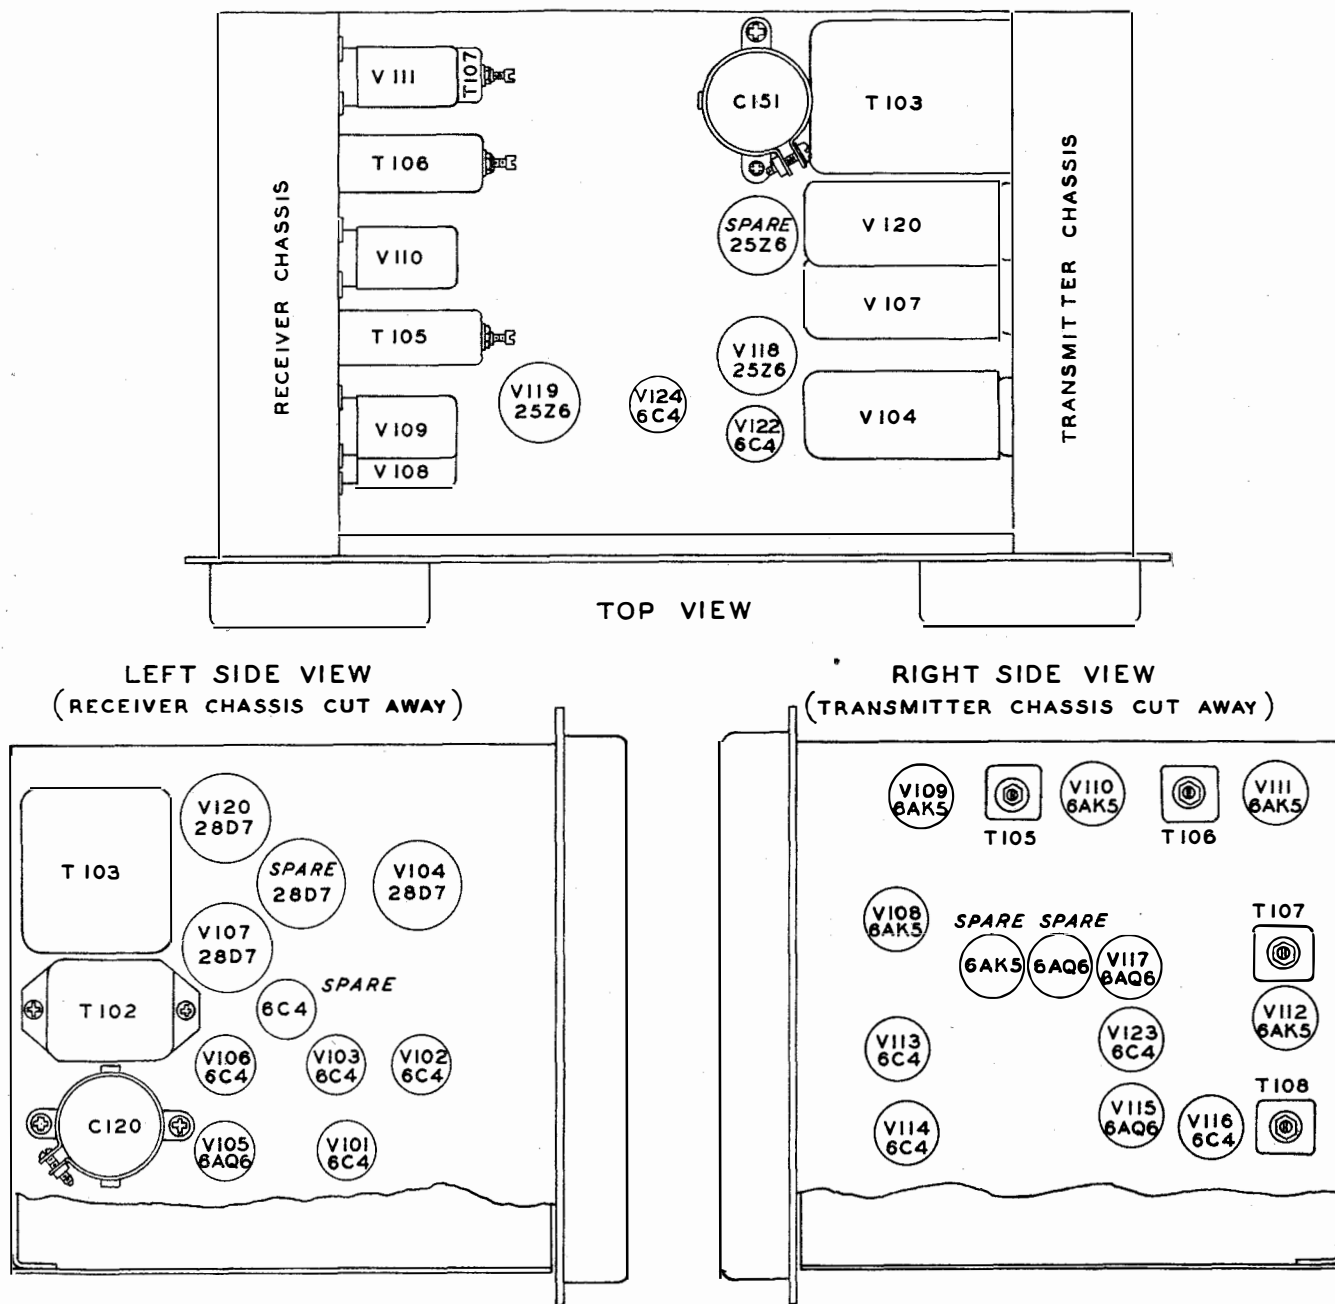

Figure 2-2—Tube Locating Diagram
(8) Refer to figure 2-2. Examine the vacuum tubes, crystal holders and sockets for damage. Examine all exposed parts and wiring for obvious defects such as cracked insulators or shorted wiring.
(9) Return the panel and chassis to the transmitter-receiver cabinet and lock into place with the special screw fasteners. The accessories should be left out of the accessory case for electrical testing.